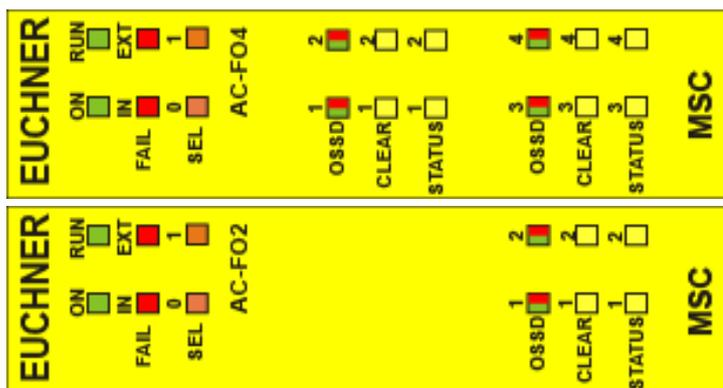

Figura 35: AC-F02/AC-F04
8.4.8. Módulos AC-F02/AC-F04 (Figura 35)